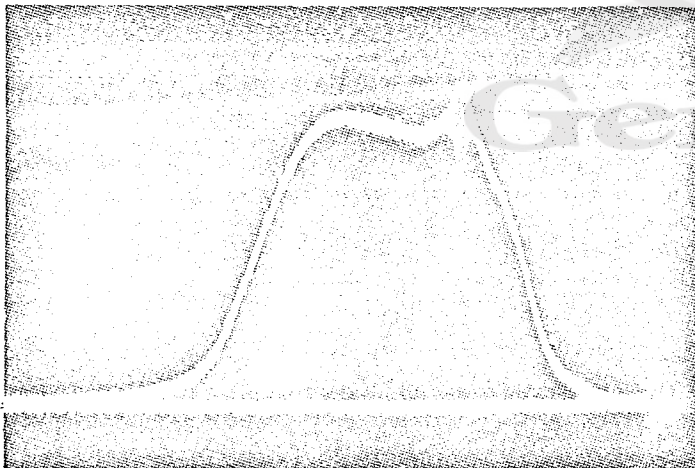

Figure 4-4-2
7. Adjust C503, C505 and the input filter trimmers of the transceiver for a waveform as shown in Figure 4-4-2 for external marker generation, or in Figure 4-4-3 for first L.O. marker generation. Adjust the capacitors for maximum amplitude, steep skirts, proper bandwidth to cover the frequencies to be received, and placement of the highest frequency marker at the top of the high frequency end of the response waveform. To check for proper bandwidth, switch the marker to the lowest frequency to be used and check that the marker falls within the low frequency limits of the bandpass waveform.